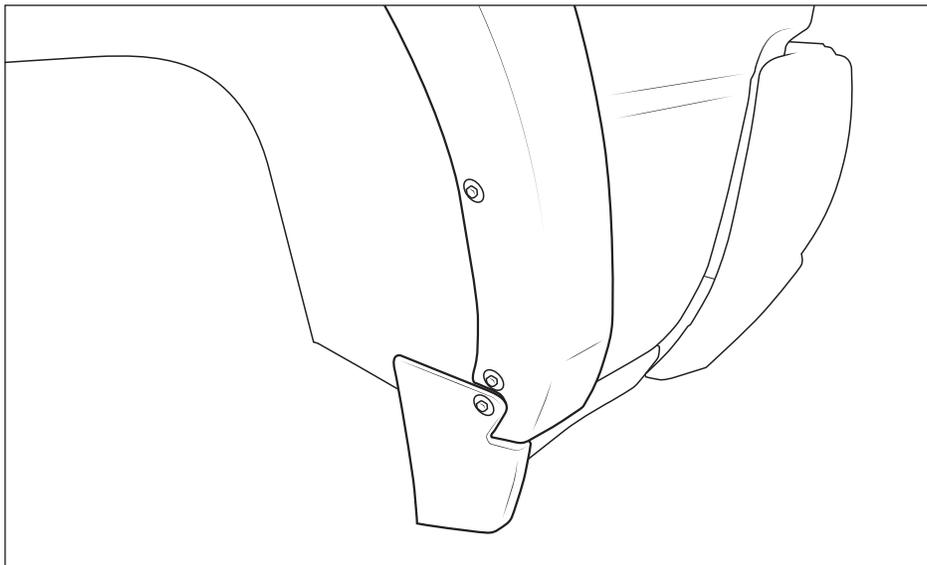

Figure 2
3. Remove three factory bolts from the fender flare and SAVE (fig. 2).